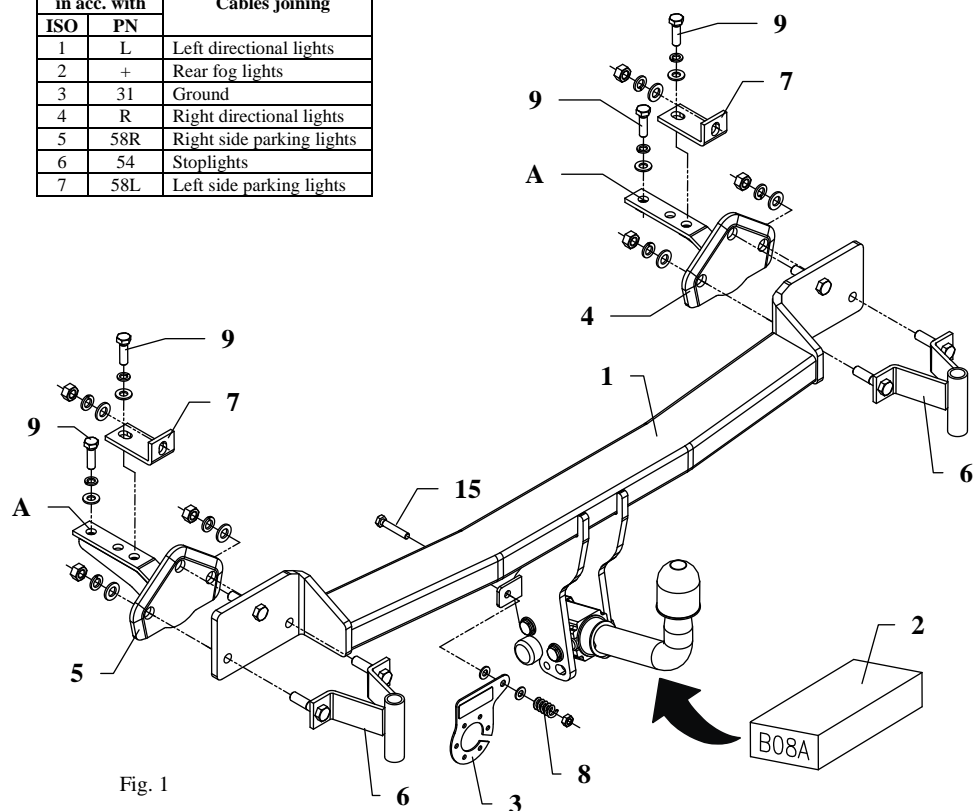

Fig. 1
4. Insert brackets (pos. 4 and 5) to chassis members (as shown on the fig. 1) and fix loosely through holes (pos. A) using bolts M10x35mm (pos. 9).
5. Fix handles (pos. 6) to the aluminium part of the bumper and next fix its plastic part.
6. So prepared towing hitch put to the rear part of car, put side brackets and angle bars (pos. 7) and fix.
8. Fix the socket plate (pos. 3) as shown on the drawing.